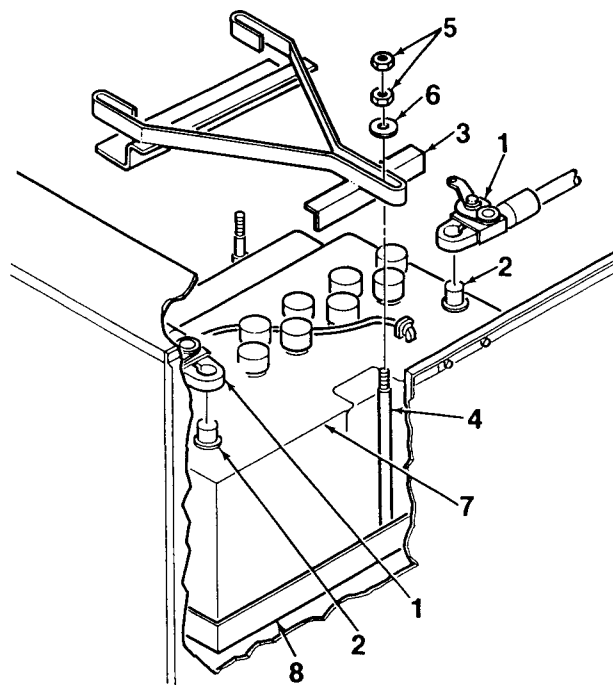

Figure 4-35. Battery
2. Disconnect positive battery cable (1, Figure 4-35) from positive (+) battery post (2). Connect cable end to enclosure ground lug.
3. Disconnect negative battery cable (1) from negative (-) battery post (2). Connect cable end to enclosure ground lug.
4. Remove battery tie-down (3) from hold down rods (4) by removing six nuts (5) and three washers (6).
- Install battery tray (8, Figure 4-35) and battery (7).
- Install battery tie-down (3) and secure to hold down rods (4) using six nuts (5) and three washers (6).